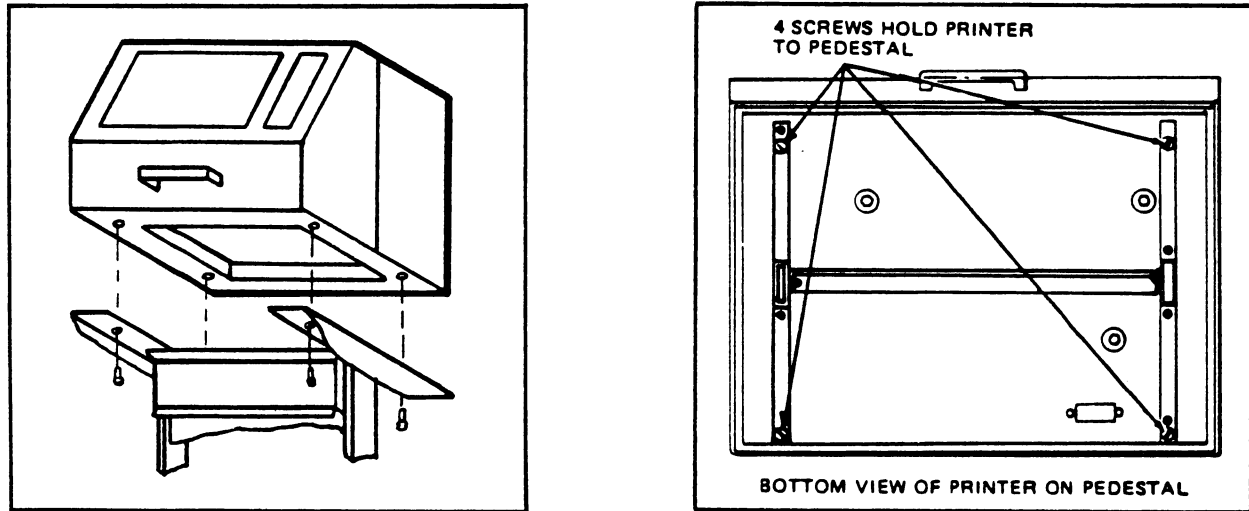

FIGURE 7-3.
3. Insert the washers on the four 10/32x5/8 inch machine screws and secure the printer to the pedestal shown in Figure 7-3.